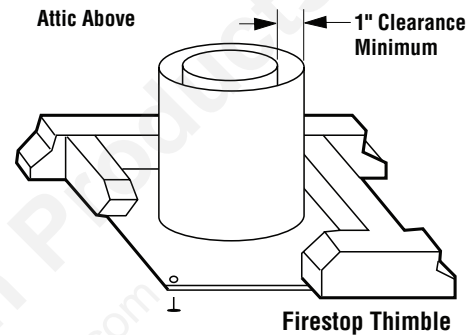

Figure 12 Firestop Thimble
Position appropriate thimble/firestop spacer combination at ceiling and nail temporarily with two (2) 8d nails or equivalent fasteners (see Figures 12, 13 and 14). Use one fastener on opposite sides to hold thimble/firestop spacer combination in position. Nail permanently, using at least two (2) more fasteners, after chimney sections have been assembled through the thimble/firestop spacer combination and after any necessary adjustments have been made. Firestop spacer must be secured by at least four (4) fasteners when completely installed.